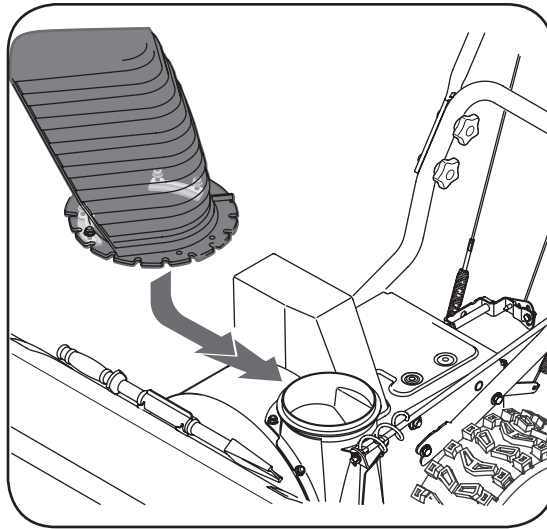

Figure 3-5
6. Place chute assembly onto chute base as shown in Figure 3-5, making sure that the notches engage with the spiral end of chute directional control.